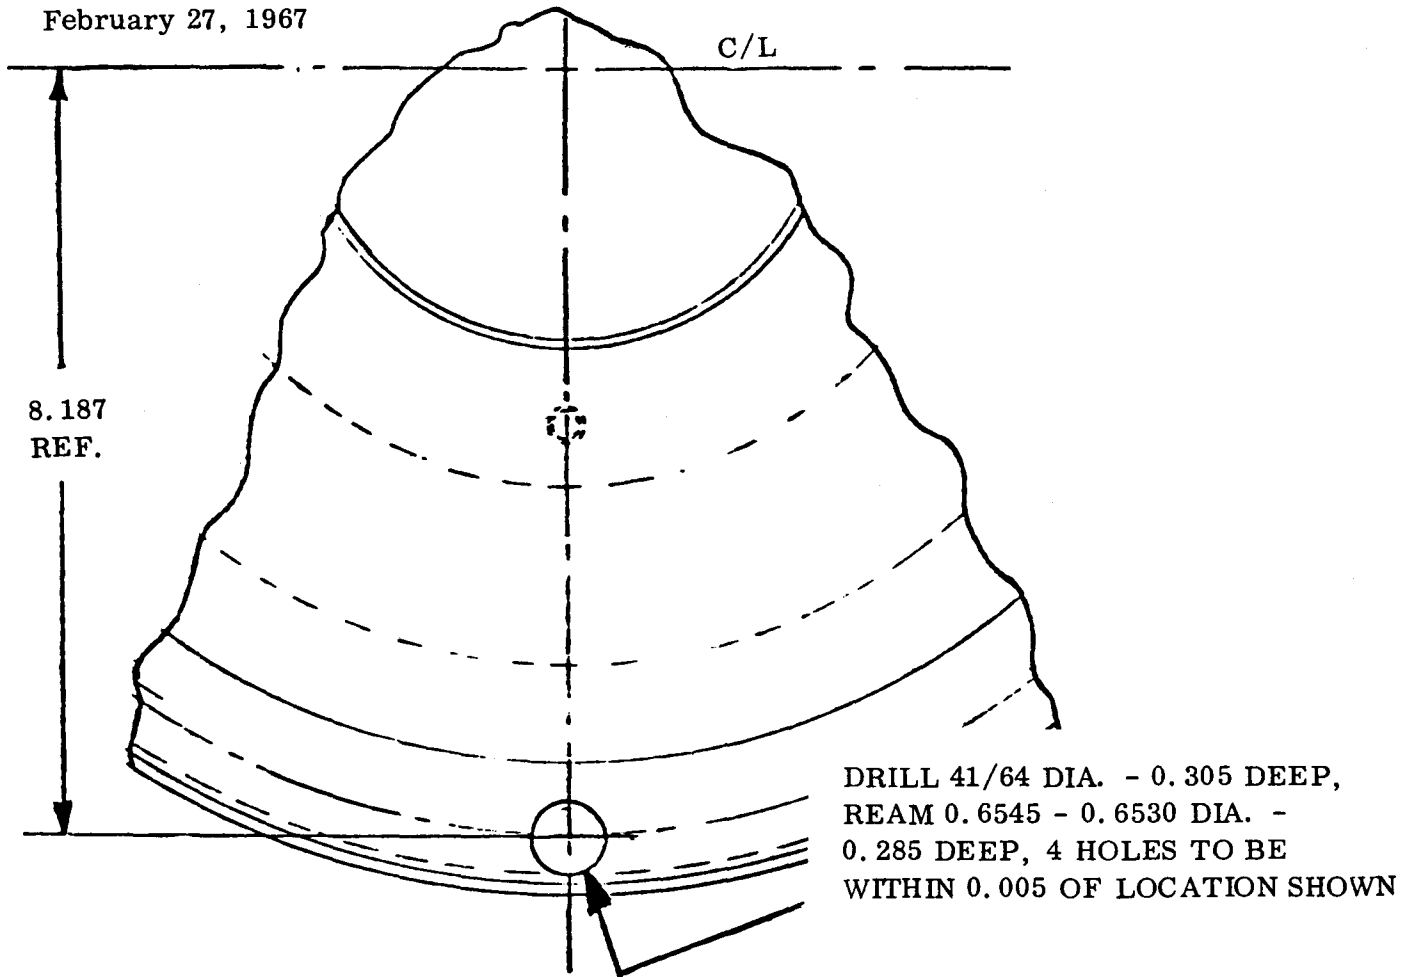

FIG. 1. LOCKUP PISTON - HOLE LOCATION AND REBORE INSTRUCTIONS
1. Drill and ream for size the four bores as indicated in Figure 1.